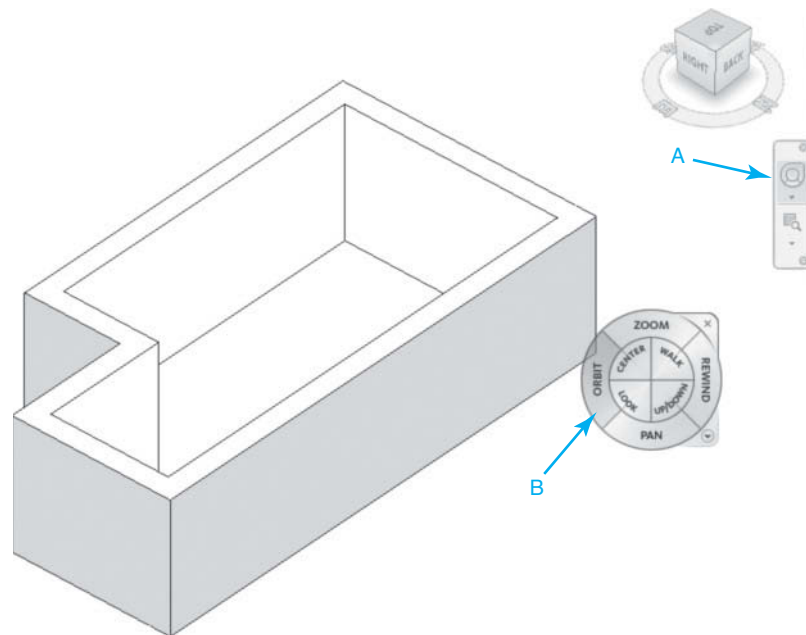

Figure 3-11
31. On the **Navigation Wheel**, select **Orbit**, and rotate the model view (see Figures 3-11 and 3-12).